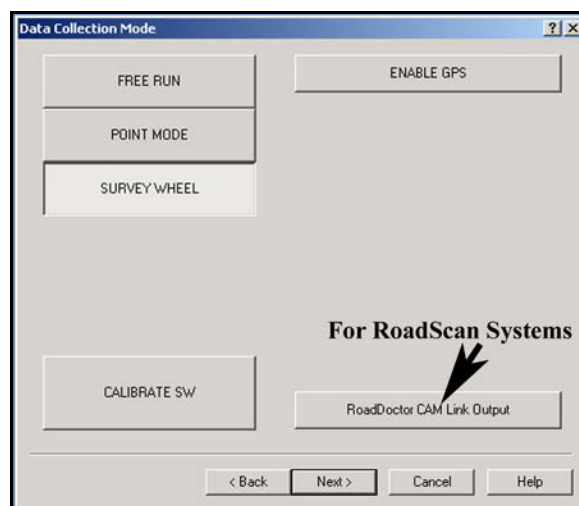

Figure 12: Data Collection Mode window.
- All data entry on this screen is optional. If you do not wish to add notes, click Next >. A window will open with the heading Data Collection Mode (Figure 12).